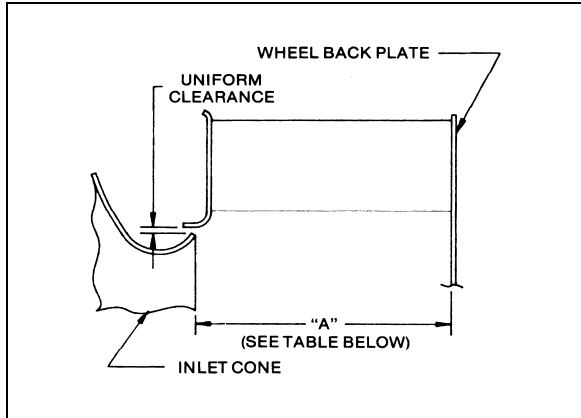

Figure 3
6. When installing a new wheel or cone, the proper wheel-to-inlet cone clearance must be maintained (see Figure 3 for correct full-width wheel dimensions) (Dims. for narrow width wheels will vary)